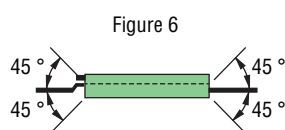

Figure 6
- f) Do not bend terminals more than 45 ° at root (refer to Figure 6)